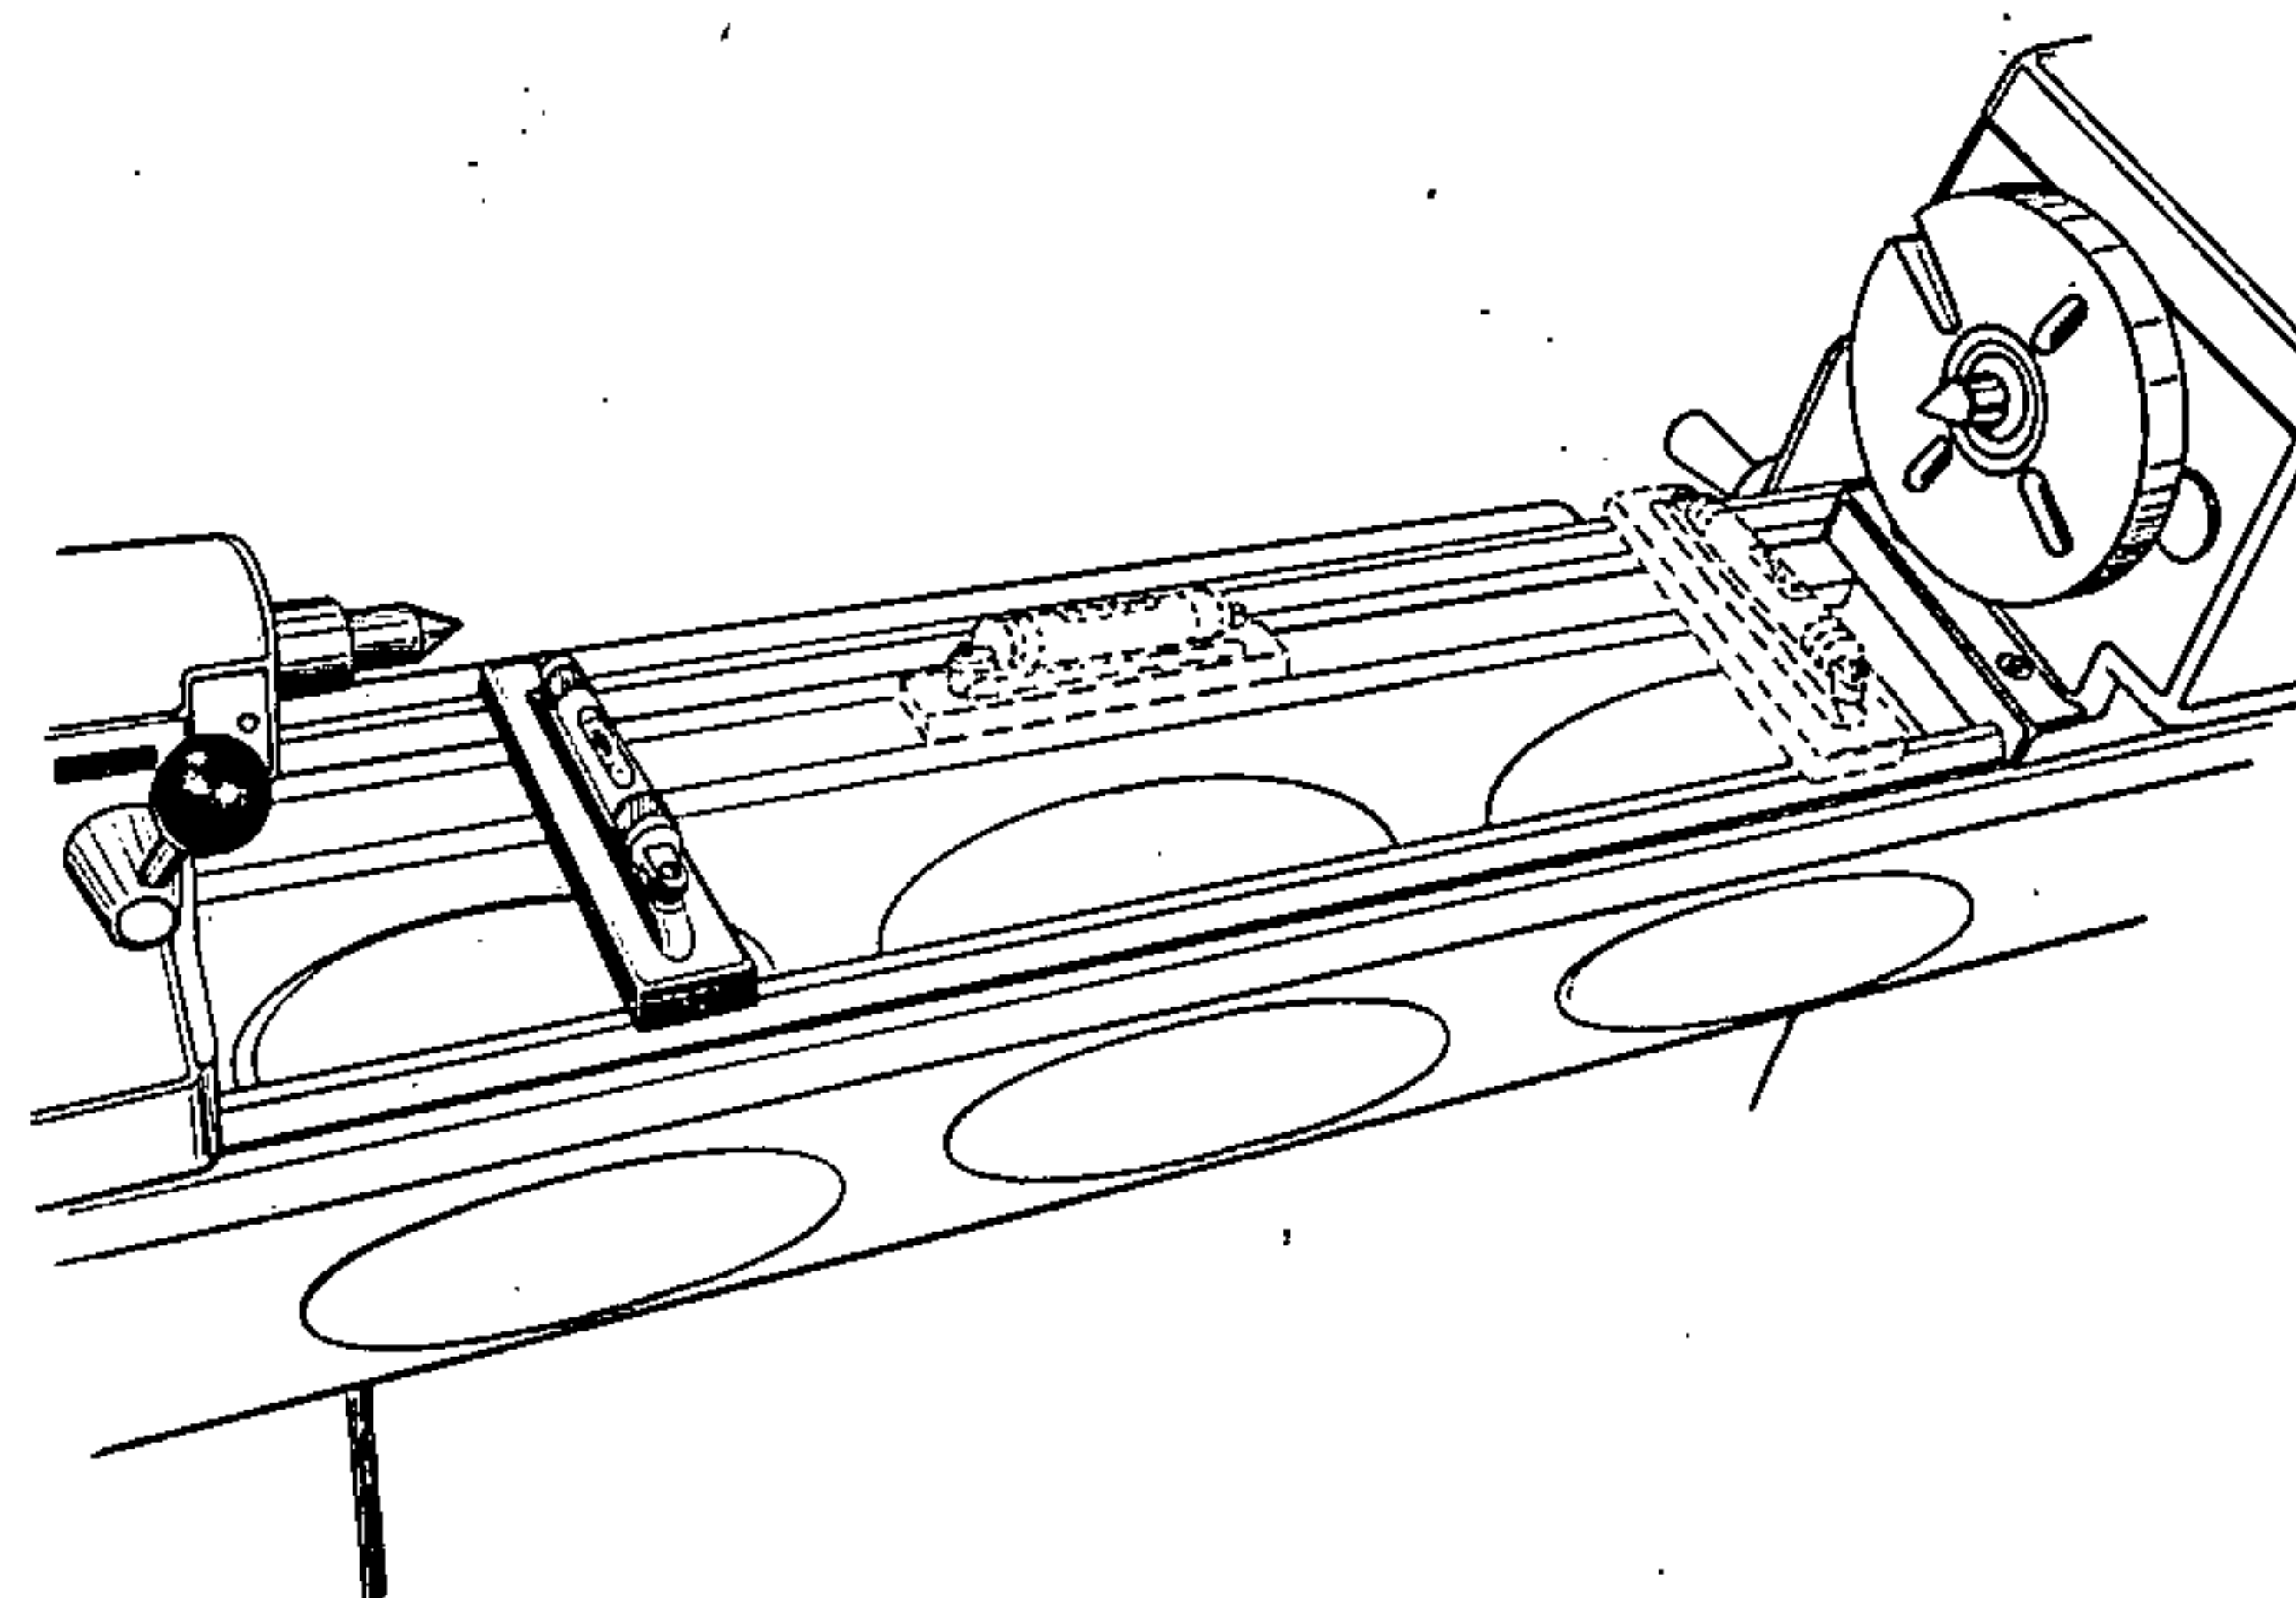

Figure 3
1. First level lathe bed longitudinally. Compensate for variations of bubble readings by turning the leveling screws on the cabinet base until lathe is level -- refer to Figure 3 for level positions.
2. Both ends of the lathe bed -- the headstock and the tailstock -- must be checked with the level placed at right angles to the lathe bed -- refer to Figure 3. Use a square to align the level. *Do not turn level end for end.*